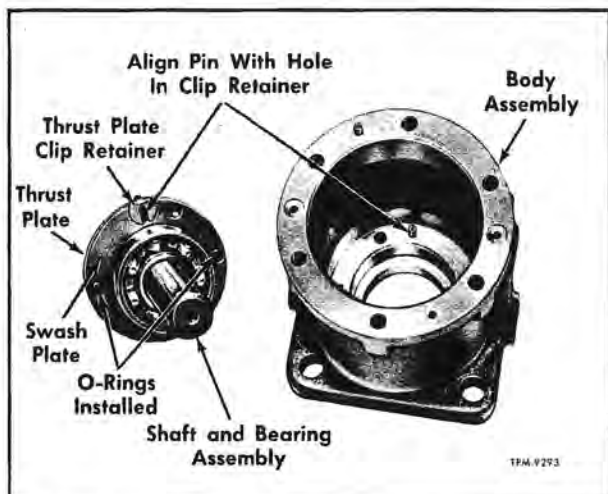

Figure 55—Motor Shaft Assembly Removed
8. Using a soft hammer, tap on fan end of motor shaft to drive the shaft with thrust plate (15) and swash plate (14) as an assembly from motor housing. Figure 55 shows shaft assembly separated from housing.
9. Remove clip retainer (6) which retains thrust plate (15) to swash plate (14), then remove thrust plate and swash plate from over shaft splines.
10. Press shaft bearing assembly (12) from motor shaft.
2. The motor thrust plate (15) can be resurfaced in similar manner as cylinder block and end cap. Remove all lapping compound before assembling.
3. Check small O-rings on back of swash plate (fig. 55) for nicks and scratches, then lightly grease for reassembly making sure they are completely in recess.
4. If bearing (19) in end cap or bearing inner race (20) on motor shaft is worn it will be necessary to replace the end cap assembly (1).
4. Refer to figure 55 which shows alignment pin (7) at bottom of motor housing. Pin must align with thrust plate clip retainer hole. Assemble shaft assembly into motor housing. Remove one guide screw at a time and install regular attaching screws